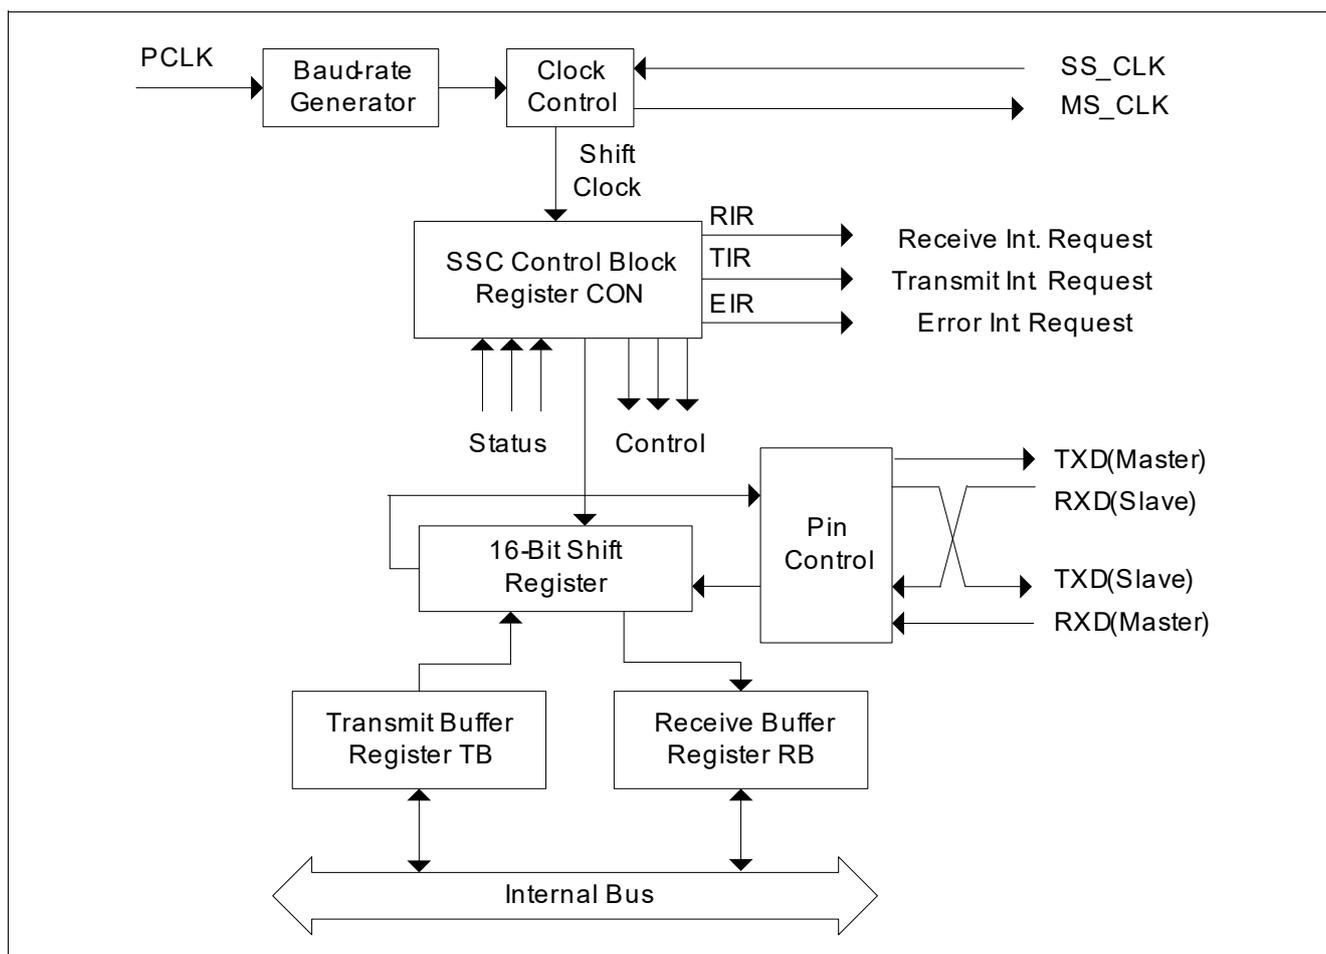
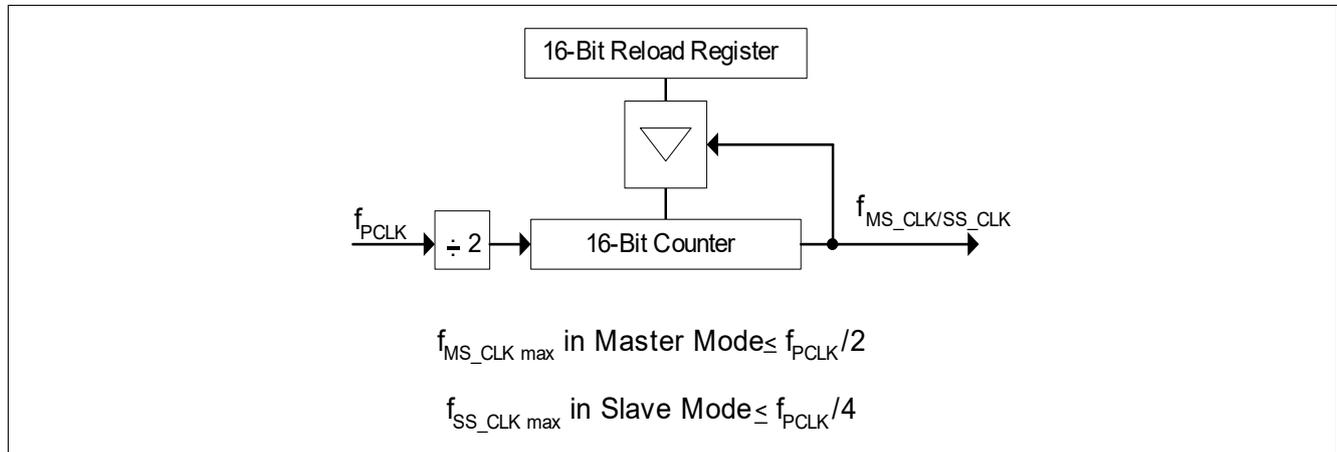

Figure 180 Synchronous Serial Channel SSC Block Diagram
Figure 184 SSC Baud-rate Generator
The shift register of the SSC is connected to both the transmit lines and the receive lines via the pin control logic (see block diagram in Figure 180). Transmission and reception of serial data are synchronized and take place at the same time, i.e. the same number of transmitted bits is also received. Transmit data is written into the Transmit Buffer (TB) and is moved to the shift register as soon as this is empty. An SSC master (CON.MS = 1) immediately begins transmitting, while an SSC slave (CON.MS = 0) will wait for an active shift clock. When the transfer starts, the busy flag CON.BSY is set and the Transmit Interrupt Request line TIR will be activated to indicate that register TB may be reloaded again. When the programmed number of bits (2 ... 16) has been
The serial channel SSC has its own dedicated 16-bit baud-rate generator with 16-bit reload capability, allowing baud rate generation independent of the timers. In addition to Figure 180, Figure 184 shows the baud-rate generator of the SSC in more detail.
$\langle \text{BR} \rangle$ represents the contents of the reload register, taken as an unsigned 16-bit integer, while baud rate is equal to $f_{\text{MS_CLK/SS_CLK}}$ as shown in Figure 184.